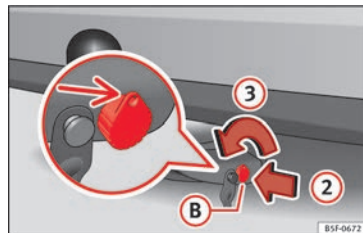

Fig. 241 Releasing the lock.
- Insert key ② into the lock in the direction of arrow ② » Fig. 241.
- Turn the key in the direction of arrow ③ until the part of the key with the holes is facing upwards. »